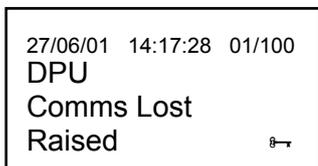

Figure 43. Display of Log
- The Event Log contains the 100 most recent events and these can be displayed in turn by using the '▲' and '▼' keys to scroll through the list. Each event is given a time stamp when the event occurred and is also given an index number in the list of 100 events as shown in figure 43.